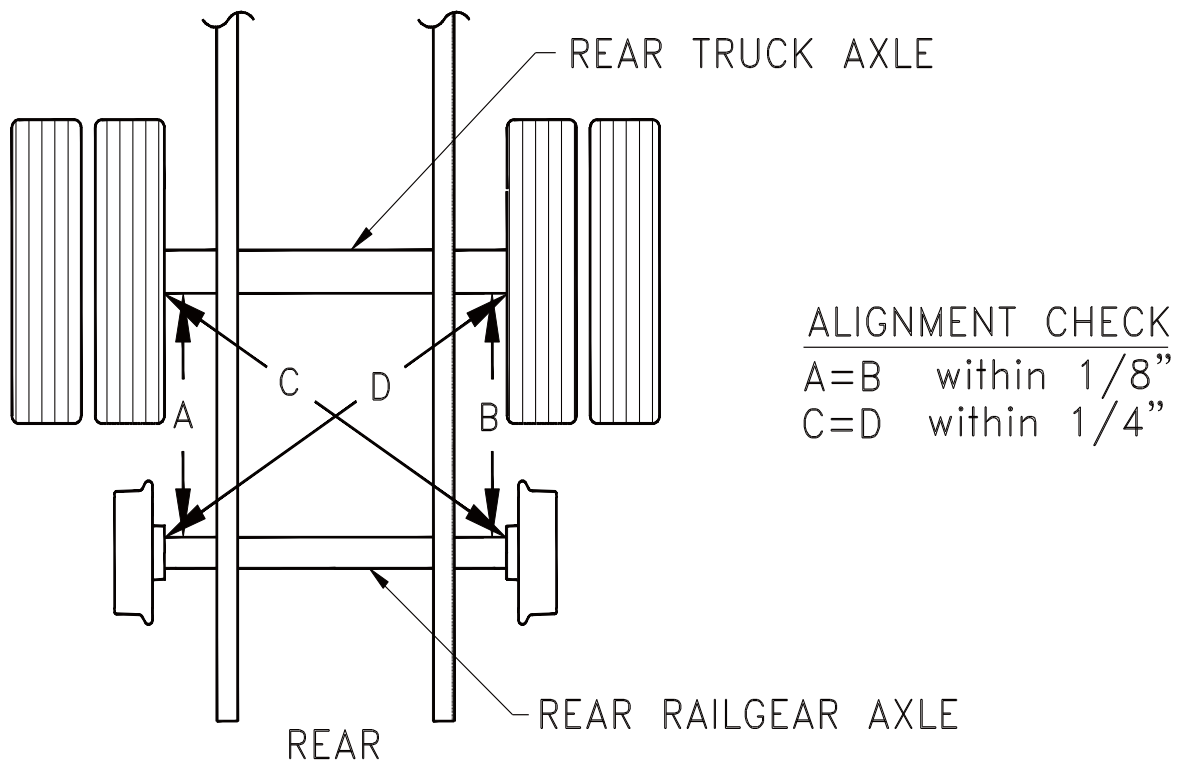

Figure 4.4.7.A Squaring Rear Railgear
The Rear Railgear needs to be made absolutely square with the rear truck axle. Four measurements (shown in Figure 4.4.7.A) need to be taken to ensure this requirement:
- (1) The distance from the truck axle to the Rear Railgear Axle at each end. In Figure 4.4.7.A, distance "A" must be equal to "B" (within 1/8"). This is an important alignment check.
- (2) The diagonal from the truck axle to the opposite Rear Rail Wheel. In Figure 4.4.7.A distance "C" must be equal to "D" (within 1/4").